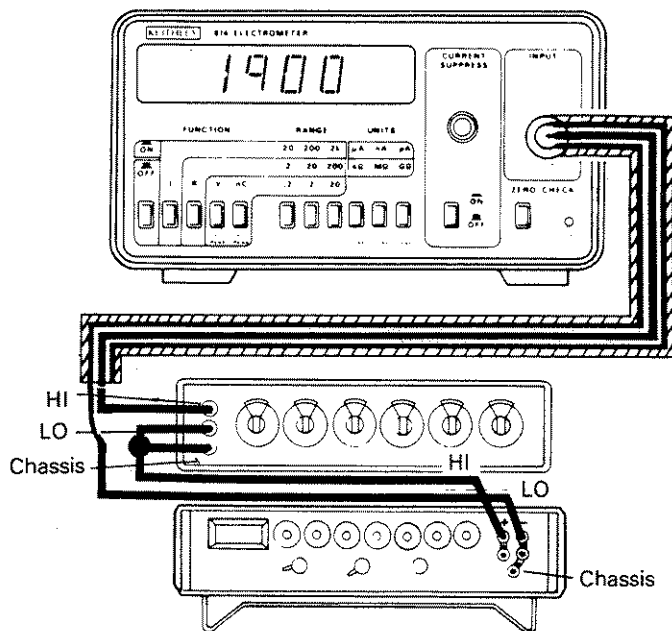

Figure 6-2. Current Calibration
5. Connect the DB-62 (Item E), the DC calibrator (Item A), and the Model 614 as shown in Figure 6-2.